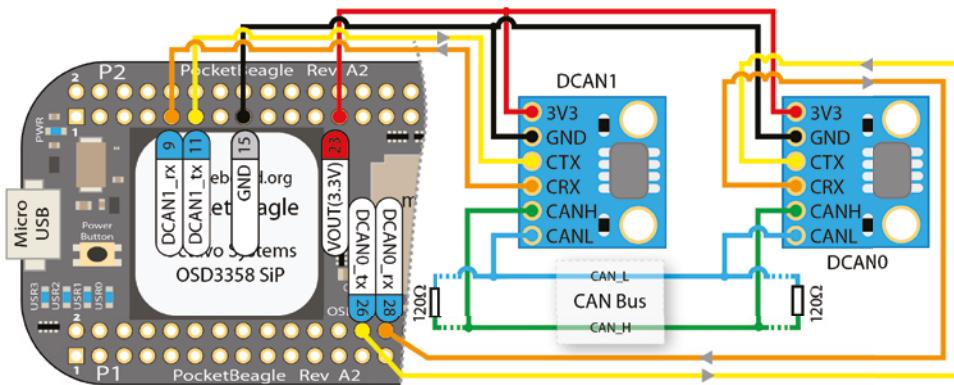
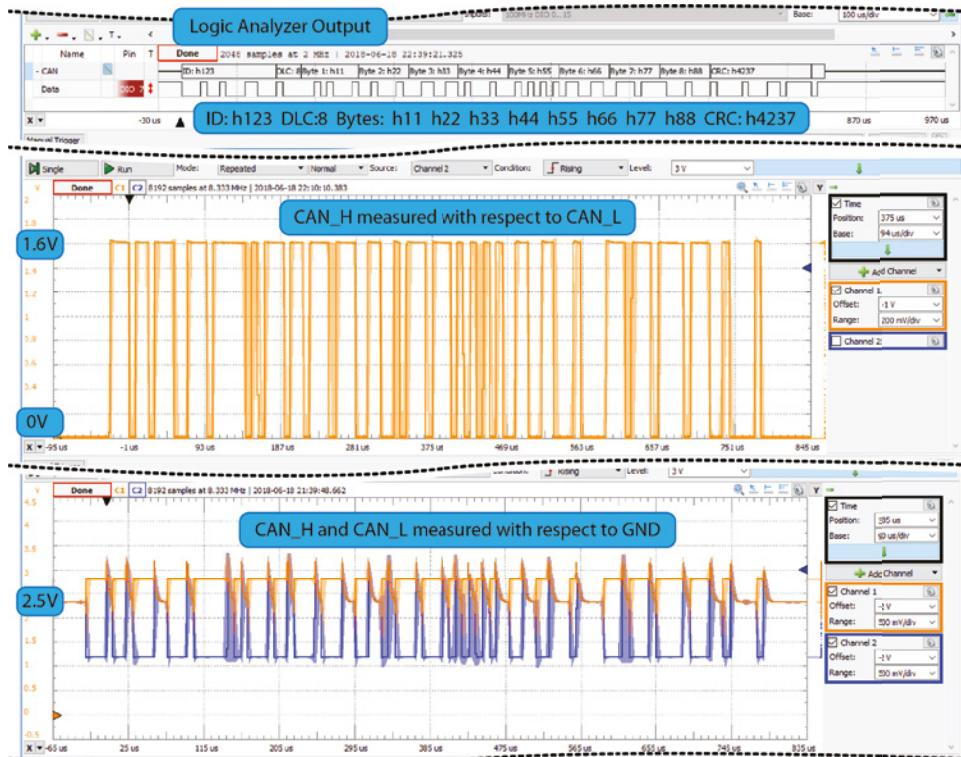

Figure 8-24: PocketBeagle CAN Bus test using DCAN0 and DCAN1 for a hardware loopback test with SN65HVD230 CAN modules
Figure 8-25: A logic analyzer and scope capture of the CAN Bus circuit in Figure 8-24 sending the message 123#11.22.33.44.55.66.77.88
You can use both CAN buses on the PocketBeagle or BeagleBone to create a true hardware loopback test. You could also perform this test by using one CAN interface on two separate boards. Importantly, you will need to acquire and connect two CAN physical layer modules (e.g., TI SN65HVD230-based modules), as illustrated in Figure 8-24. Other third-party CAN bus devices can be added to the bus at this point.
CAN Bus requires termination resistors on the CAN_H and CAN_L lines that match the nominal impedance of the cable. The ISO 11898 CAN standard requires a cable with a nominal impedance of 120Ω . You should place two such resistors on each end of the cable, as illustrated in Figure 8-24.
You can test the configuration in Figure 8-24 using the SocketCAN Can-utils tools (elinux.org/CAN-utils). These are installed on the BeagleBoard.org Linux image by default in the `/usr/bin/` directory.
Figure 8-25 displays a capture of the CAN Bus in Figure 8-24 when the following message is transmitted to the bus. You can also see that the voltage level profile of the bus is consistent with Figure 8-23(b).⁵
⁵To use the Analog Discovery (AD) to interpret the CAN Bus you can connect the AD GND to the Beagle board GND, any DIO pin (e.g., DIO7) to the CAN_L line (as in Figure 8-24), set the polarity to “low,” and set a trigger. This ensures that the DIO pin is maintained within voltage range for the AD. Do not connect the CAN_H line to the AD DIO pins as it may exceed acceptable voltage levels when using 5V CAN Bus connections.
The code can be compiled and executed as follows, whereupon a message will be sent to the bus and received by the `candump` utility that is running in a separate terminal window, provided that the circuit is configured as in Figure 8-24.